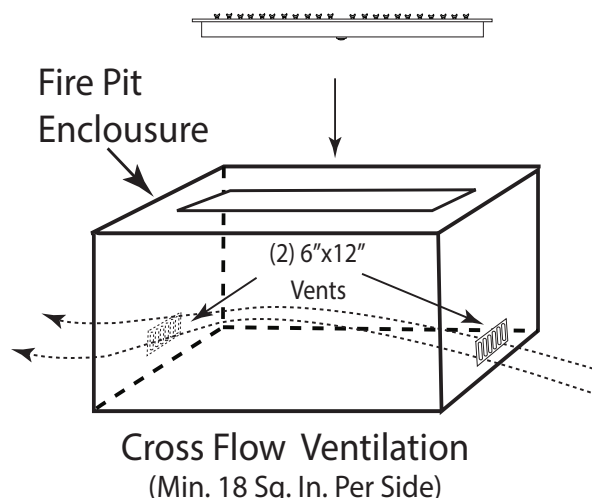

Fig. 3 Cross ventilation example
Fire pits are subjected to many outdoor elements such as rain, snow, wind, heat or cold. **A minimum of 18 square inches (two opposite sides) of cross ventilation is required to keep the components in good working order.** Use Fig. 3 as guide to assist to incorporate proper ventilation.
6. DO NOT place an LP tank inside any fire pit enclosure. Locate all Propane (LP) tanks outside the enclosure.
7. **CAUTION: A minimum of 18 square inches of cross ventilation (opposite sides) is required to keep the enclosure dry. See Fig. 3.**